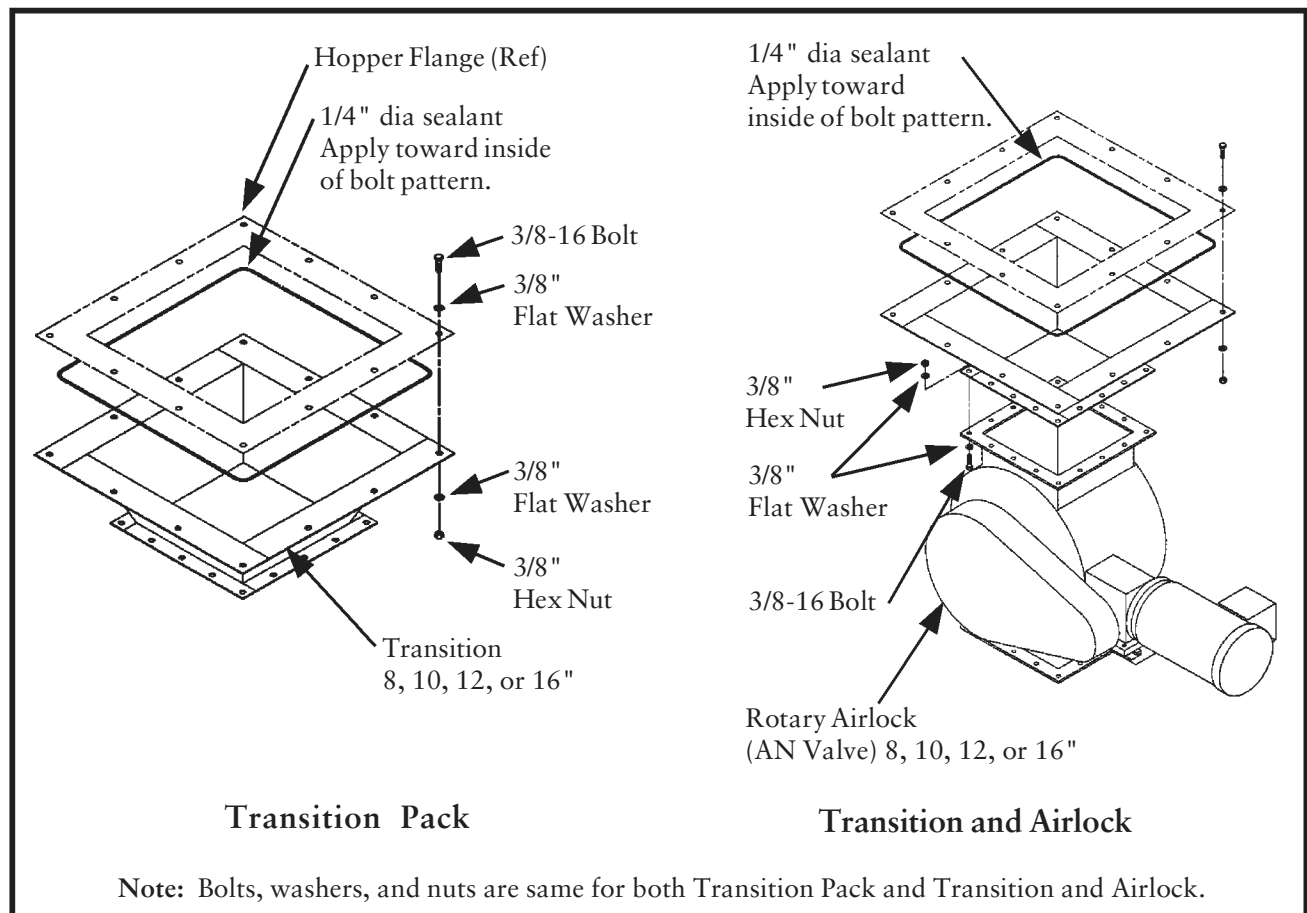

Figure 9
2.6.2 Transition Pack (See Figure 9)
1. Apply 1/4" diameter sealant between the hopper flange and the transition as shown in Figure 9, Transition Pack, Transition, and Airlock.
2. Fasten the transition to the hopper flange using 3/8" bolts, washers, and nuts as shown in Figure 9, Transition Pack, Transition, and Airlock.
2.6.3 Transition and Airlock (See Figure 9)